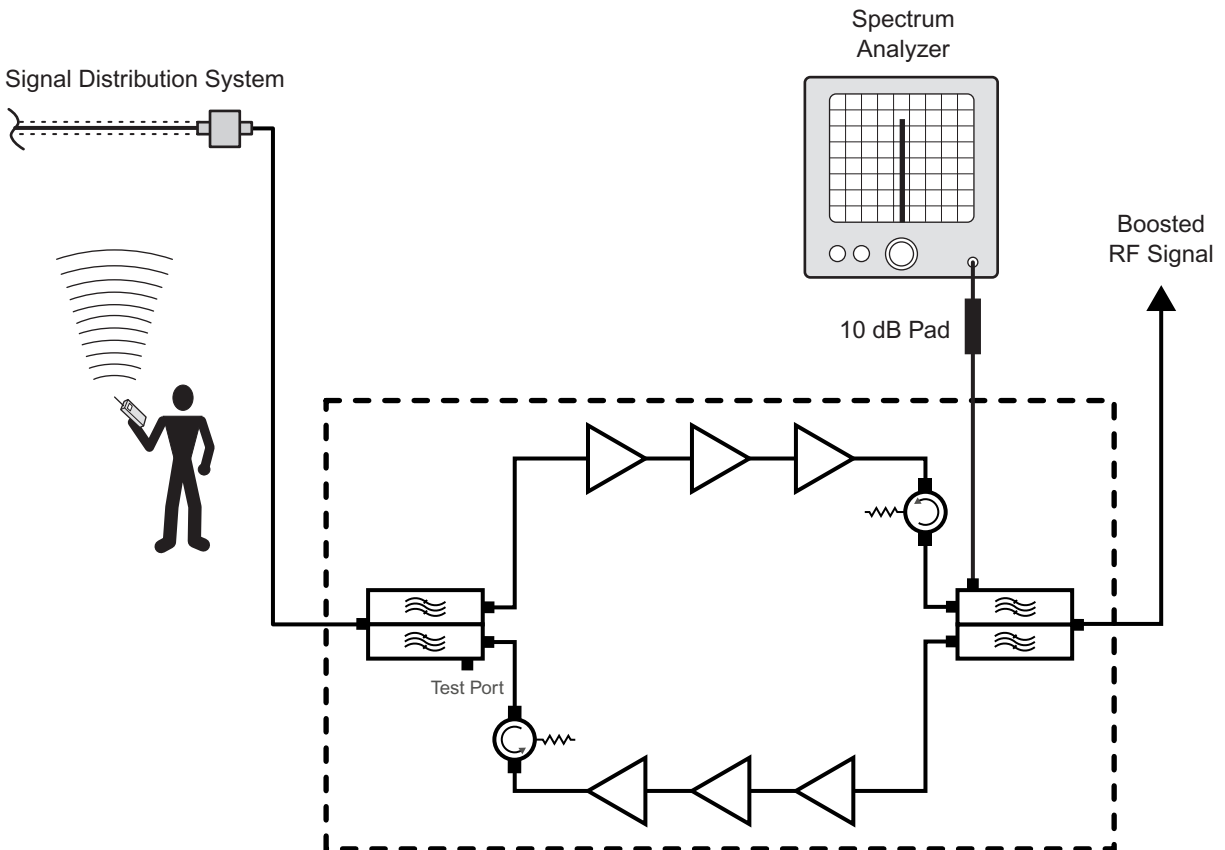

Figure 8: Test equipment interconnection for surveying performance.
- 3) With a spectrum analyzer connected to the signal sampler port (see **Figure 8**), have personnel with handheld radios move to several predetermined points and key their radios. Record the level of these signals as observed on the analyzer and also record the location of the person transmitting. In this way, a map of the systems performance can be generated.